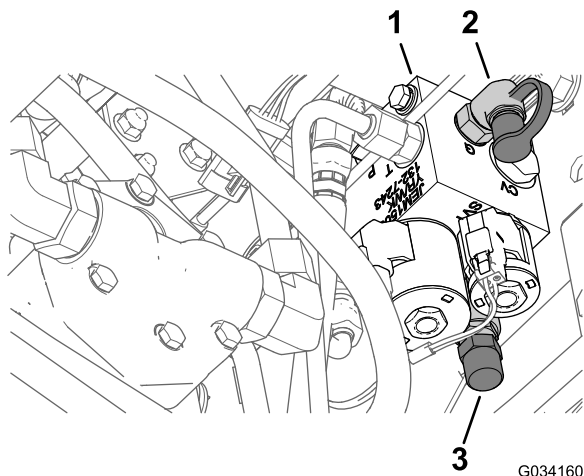

Figure 16
3. Connect a pressure gauge to the test port at the rear of the lift manifold (Figure 16).
4. At the front of the lift manifold, remove the cap from the weight-transfer spool (Figure 16).
5. Loosen the jam nut at the bottom of the weight-transfer spool (Figure 16).